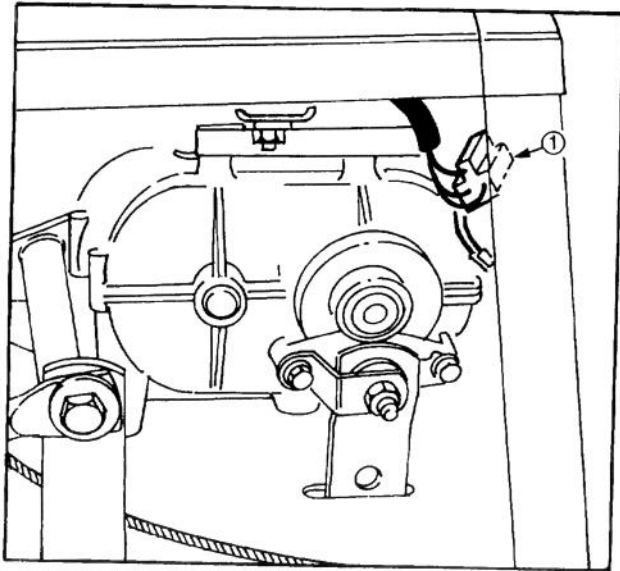

Figure 34
3. Push module connectors together to assure connection (Fig. 34).